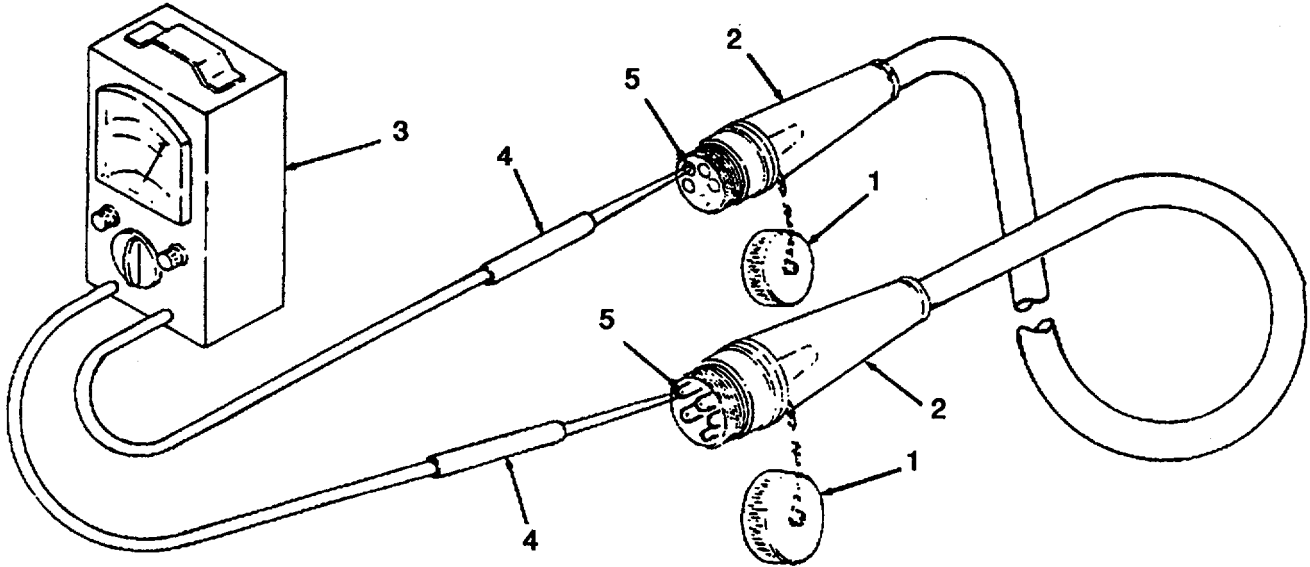

Figure 4-15. External Cable Assembly.
- (1) Unscrew and remove covers (1, Figure 4-15) from cable connectors (2).
- (2) Preset multimeter (3) to perform continuity testing.